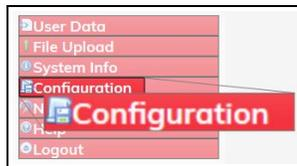

Figure 277: Configuration link
4. On the **Menu** list, click the **Configuration** link. Figure 277